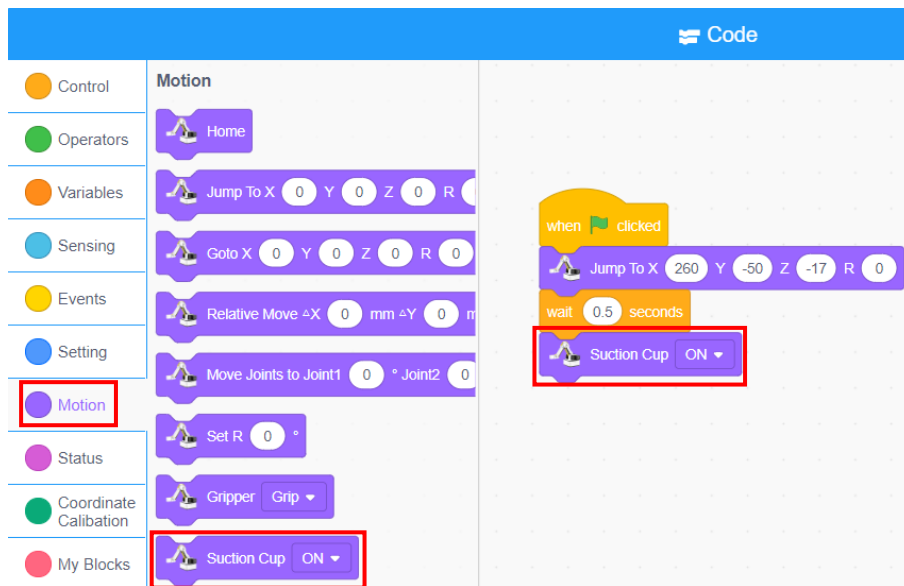

Figure 2.24 Grabbing objects
- 3) Grab objects. Click the "**Motion**" tab, drag the "Suction Cup" block to the code area, and put it under the "wait (0.5) seconds" block, as shown in Figure 2.24.